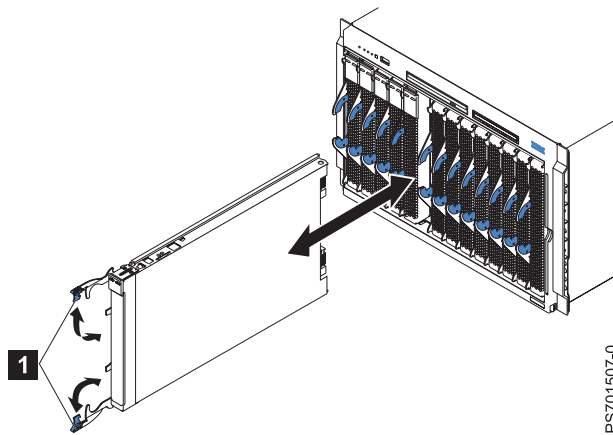

Figure 23. Installing the blade server in a BladeCenter unit
5. Verify that the release handles on the blade server are in the open position (perpendicular to the blade server, as shown in **1** in Figure 23 on page 39).